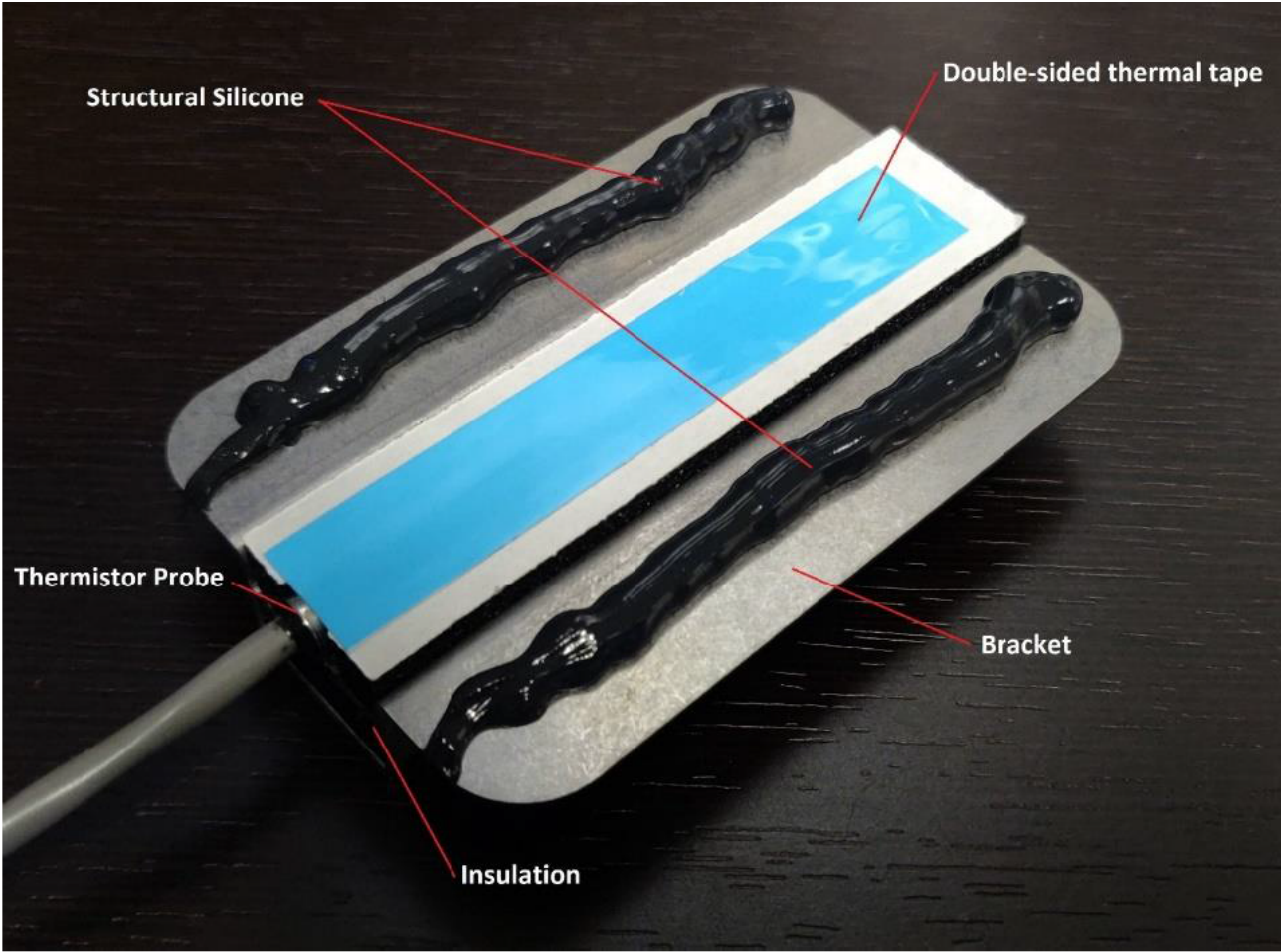

Figure 1: Application of structural silicone to bracket
2. Grasp the bracket assembly on the spine portion and flip such that the bottom flange surfaces are shown as well as the double-sided thermal tape (See Figure 1).
3. Apply structural silicone to both of the flange surfaces as shown in Figure 1 below. NOTE: If the structural silicone is provided by Lat-Lon, it will either be in a small baggie (where you can cut off the corner and squeeze it out), or an entire tube of silicone will be provided.